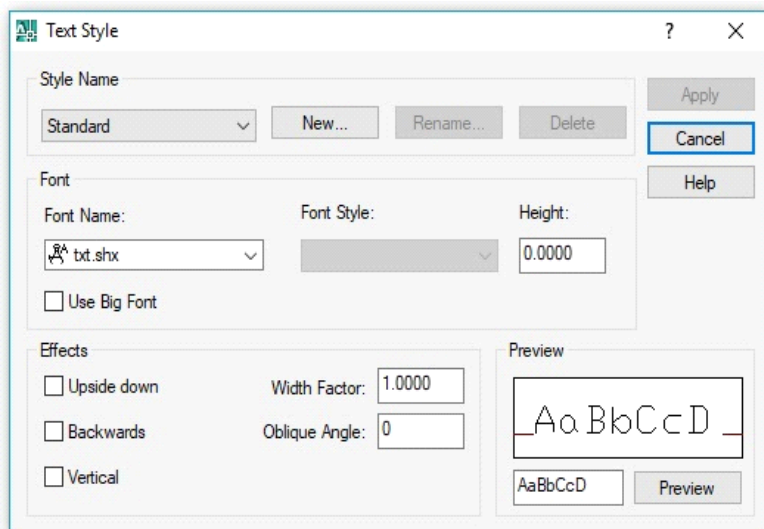

Fig. 1.5: Text Style
- Go to Format Text Style. The “Text Style” dialogue box will appear as shown in Fig. 1.5.